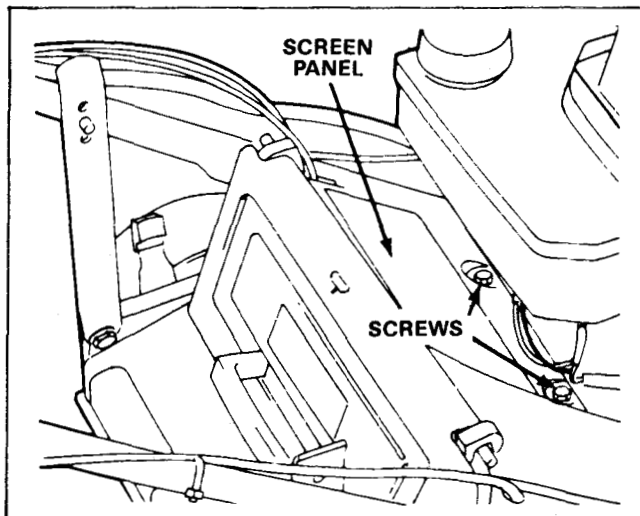

Figure 63
3. Remove the two flanged head self-tapping screws securing the screen panel to the housing and remove the panel. See Figure 63.